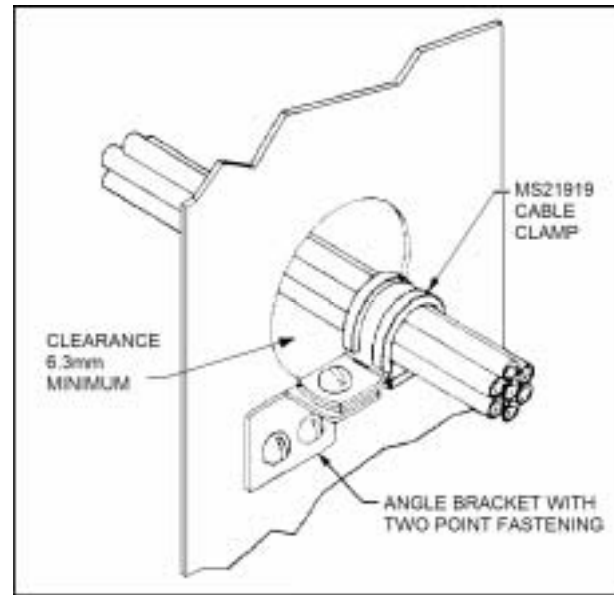
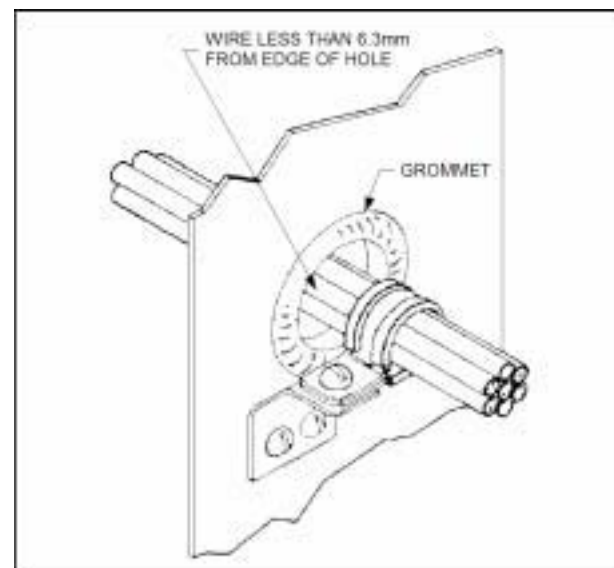

Figure 4-5 Cable Clamp at Bulkhead Hole
Figure 4-6 Cable Clamp and Grommet at Bulkhead Hole
20. Install wires and wire groups so they are protected against chafing or abrasion in locations where contact with sharp surfaces or other wires would damage the insulation. Damage to the insulation may result in short circuits, malfunction, or inadvertent operation of equipment. Use approved cable clamps to support wire bundles at each hole through a bulkhead. (See Figure 4-5.) If wires come closer than 6.3mm to edge of hole, install a suitable grommet in hole as shown in Figure 4-6.